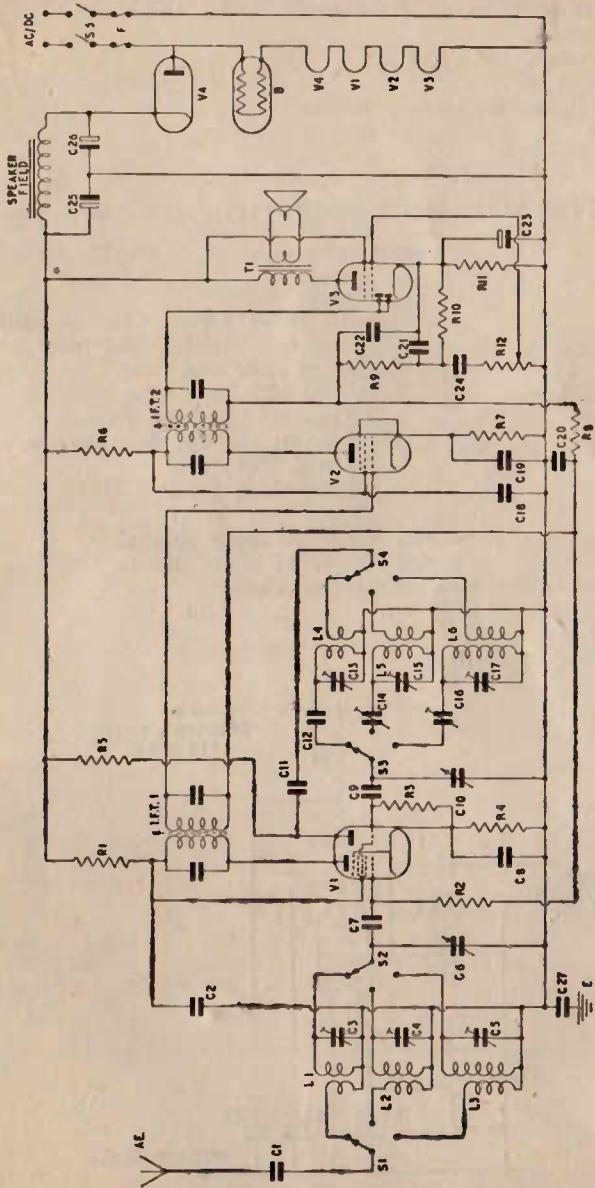

FIG. 28. A.C./D.C. Superhet Receiver.
A.C./D.C. SUPERHET RECEIVER—Fig. 28.